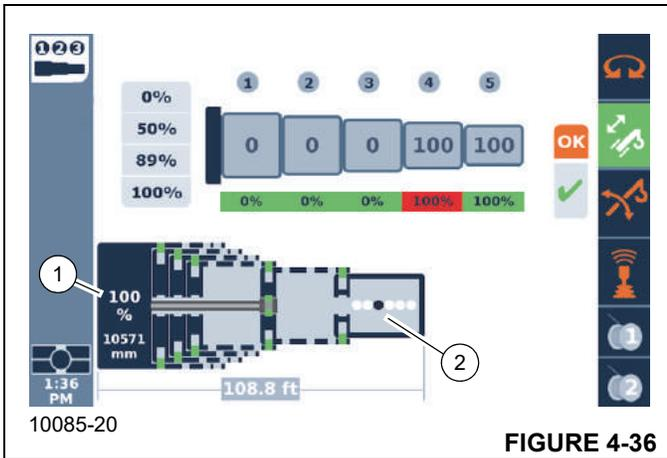
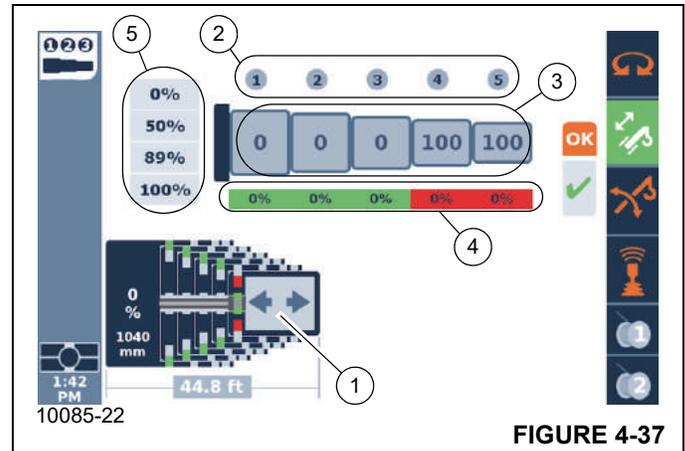

FIGURE 4-36
FIGURE 4-37
The Semi-auto screen of the operating display (refer to Figure 4-36) shows a graphic schematic near the bottom of the screen that indicates the current status of the boom computed by the control system (however the operator must continue to monitor the status of the physical boom to compare with this schematic). In Figure 4-36, there is a 100% (1) shown for the position of the telescoping cylinder (above the 10571 mm distance value). The graphical representation of the telescoping cylinder rod protrudes horizontally from the left end of the schematic (near item 1). The end of the graphical representation of the rod at the T4 boom section which is at the 100% pinning location. The slightly larger rectangular entity at the right end of the telescoping cylinder rod represents the pinning mechanism.
The example in Figure 4-36 shows the value of 10571 mm for the extension of the telescoping cylinder within the boom. This is the value from the precision length sensor. The example also shows a value of 108.8 feet as the overall boom length. The example shows the T5 boom section had been previously extended and locked at its 100% pinning location and the T4 boom section is being pinned at the 100% pinning location. The remaining boom sections are locked at their 0% pinning location.
As mentioned earlier, there are times when the control system is performing automated motions. The example in Figure 4-36 shows some dots at the end of the schematic graphic (2). These dots, as well as the one dark dot cycling back and forth to the left and right, indicates that automated motions are occurring.
Figure 4-37 shows the same screen when the operator is able to control motions of the boom sections. In this case, there is a left and/or right pointing arrow (1) (instead of the dots shown in Figure 4-36). As is consistent with the schematic's orientation, the left arrow indicates retracting the boom, the right arrow indicates extending the boom. The control device (typically the telescope controller in the standard controller option) would be moved to the left to retract the boom, and it would be moved to the right to extend the boom (while keeping in mind that only one boom section - the boom section the telescoping cylinder is locked to - would be moving).
The arrows (1, Figure 4-37), at some point in the telescoping process, will blink. The blinking is an indication that an unlocking or locking event will occur if the operator holds the joystick in the direction of that arrow for at least 1 second. If this event begins, then the screen will change to the dots (as described for Figure 4-36) so that the operator knows that an automated motion or action is again occurring.
As seen in Figure 4-37, there are sets of numerical values at the top portion of the screen above the graphical schematic of the boom.
First, there is a set of values in a top row with values of 1 to 5 in circles (2, Figure 4-37). The 1 to 5 in the circles indicate the telescoping boom sections (or "tele sections"). The 1 is for the boom section that is the largest and closest to the base section. This is referred to as T1. This then proceeds from T2 to T5 for the 2 to 5 values.
The values under these boom section indication numbers represent the requested final boom configuration (or "target tele picture") as a percentage. Figure 4-37 shows this set of values as 0-0-0-100-100 (3). This means that T4 and T5 are to be extended to the 100% pinning location, and T1, T2, and T3 are not to be extended. It is vital that the operator understand that this requested final boom configuration is the first step in operating the pinned boom in the Semi-auto Mode. Everything the control system performs with the Semi-auto Mode is dependent on this requested final boom configuration.
Second, there is a set of percentage values shown under the requested final boom configuration values. In Figure 4-37, these are shown as 0%-0%-0%-0%-0% (4). This represents the control system's currently computed actual boom
- Using the ODM, the Enter button is used for the OK shown on the screen. This sends the requested data to the control system. If this configuration is considered acceptable, a check-mark will be shown below the OK (as is seen in Figure 4-37). If the configuration is not considered acceptable, a red X will be shown instead of the check-mark (Figure 4-40). As an example, a requested final boom configuration of 0-100-0-100-0 is not allowed (the T3 section was “skipped” for having a non-0% pinning location).
- Once the telescoping cylinder is considered locked to the boom section that is to be first moved (T5 in the current example Figure 4-37) by the control system, the boom section will be unlocked (this is an automated action).
- Once the boom section is unlocked, the telescoping direction arrows (1), as shown in Figure 4-37, will appear.
- When the T4 boom section is unlocked, the left and right telescoping direction arrows will appear again (as is shown in Figure 4-37).